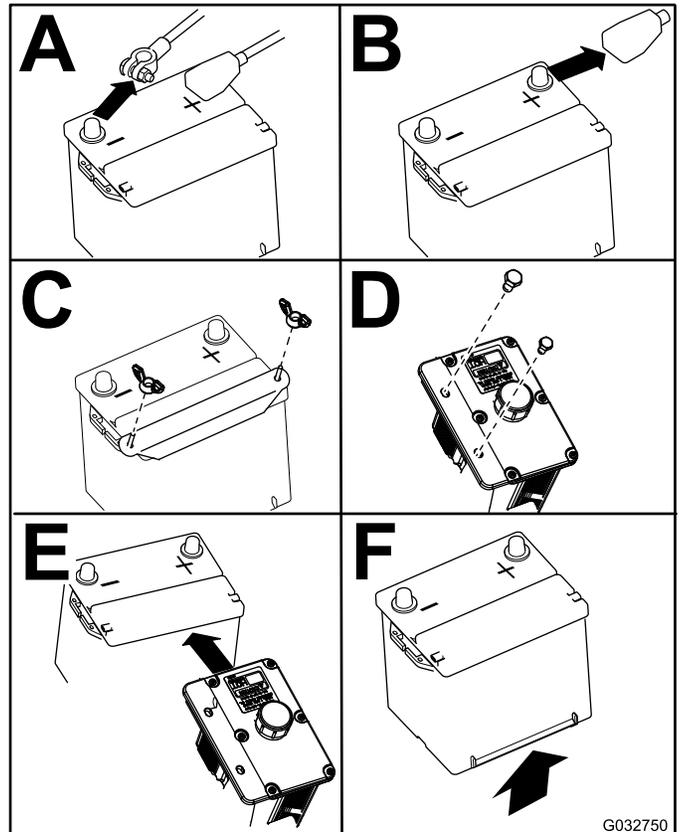

Figure 69
3. Remove the battery as shown in Figure 69.